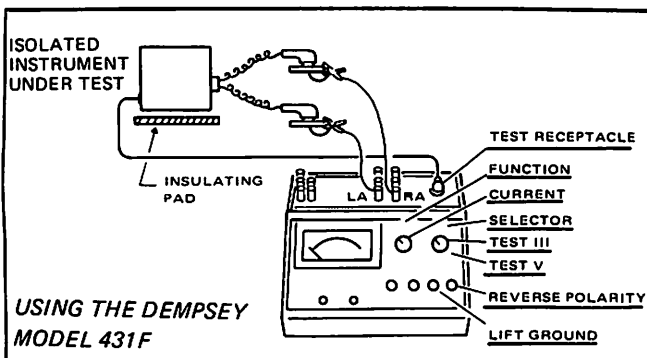

Figure 3-7A. Paddle Leakage Current (Sink Current) with 115 Volts applied.
- Connect the test equipment as shown in Figure 3-7A or B. If the Dempsey 431F is used, also follow the instructions included in that portion of the figure. Use clip leads to connect the right paddle to the RA output of the Dempsey and the left paddle to the LA output.